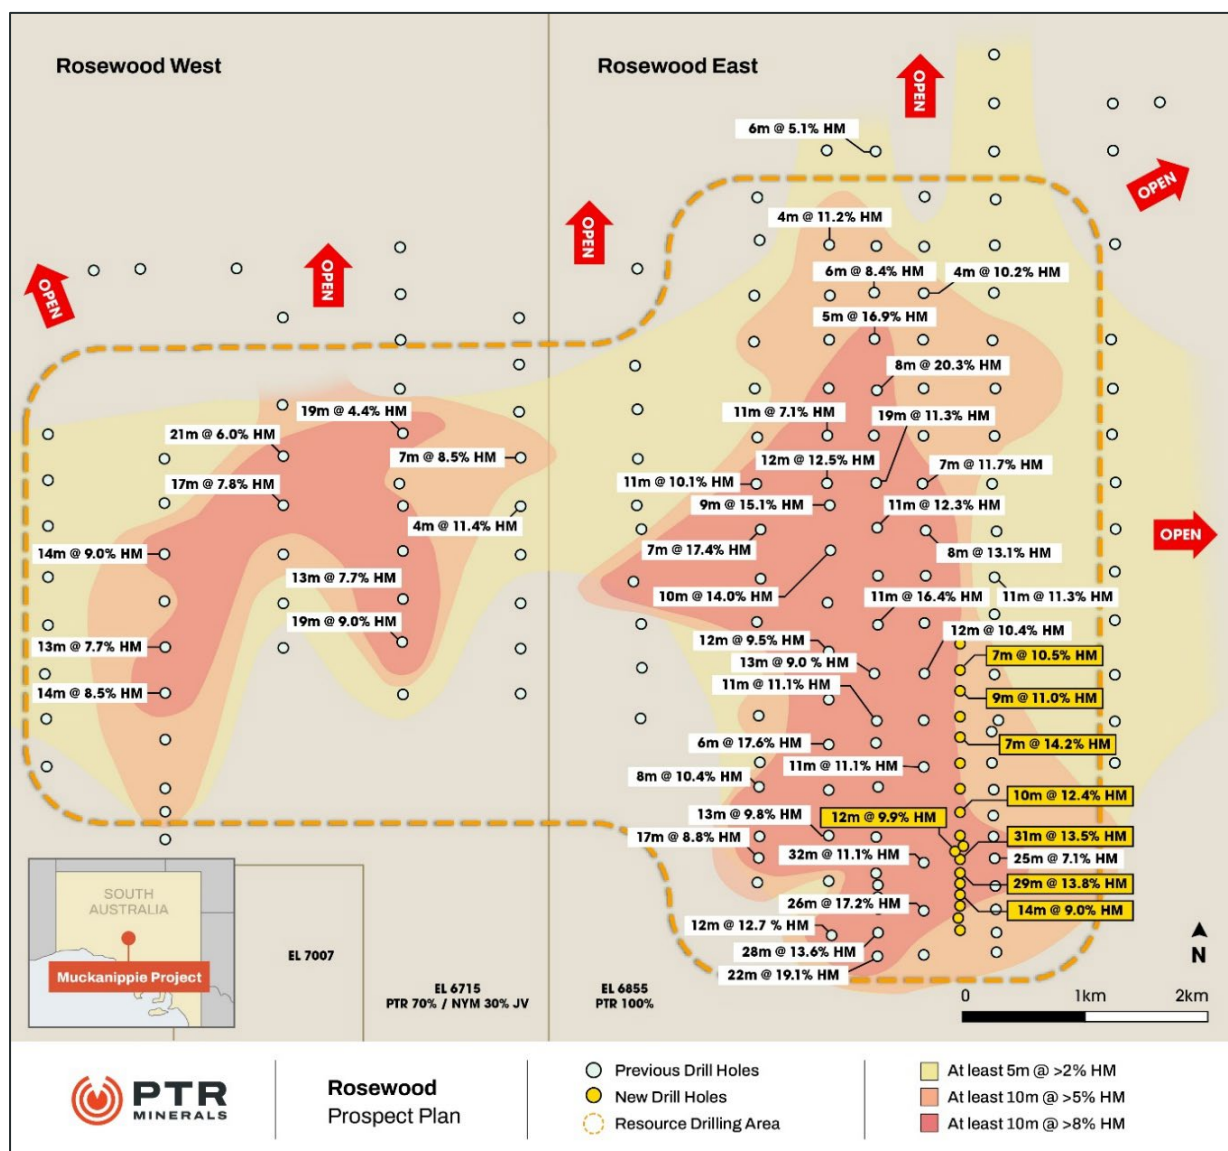

Figure 1: Rosewood Project Area – Location of historical2 and new drill results
Initial batch assay results from the current drilling have been received for the first 17 drill holes. Holes were drilled at 100 metre or 200 metre spacing along a single 2.5 kilometre drill traverse in the Rosewood East area (Figure 1). Consistent high-grade heavy mineral (HM) mineralisation, over thick vertical intervals was encountered and remains open along trend (Figure 1). They include some of the best results to date with intercepts presented in Table 1.